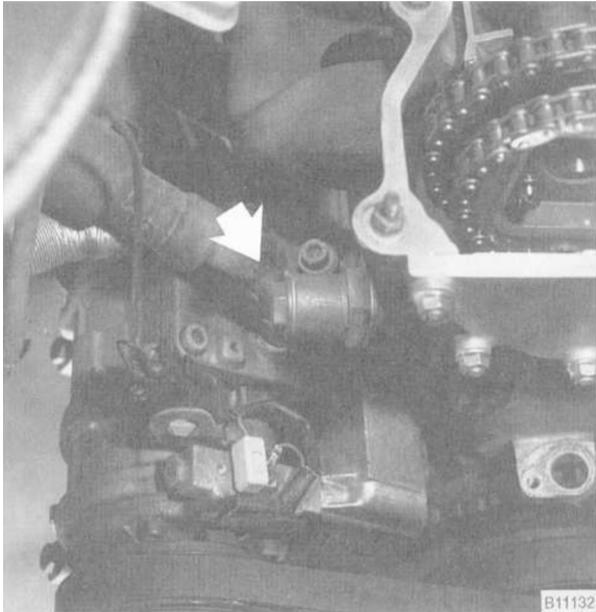

Fig. 17. Primary timing chain tensioner (arrow)
32. Remove the primary timing chain tensioner from the side of the cylinder head. See Fig. 17.